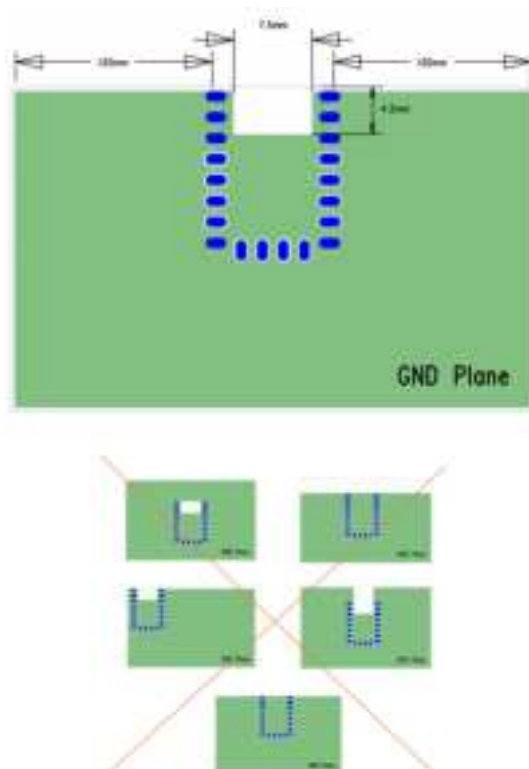

Figure 3.1. PCB Layout Recommendations for the BT122 Boards
- BT122 requires minimal free space around the module and only the white area marked in the PCB picture series presented in Figure 3.1 PCB Layout Recommendations for the BT122 Boards on page 6 below needs to be free of copper and components.